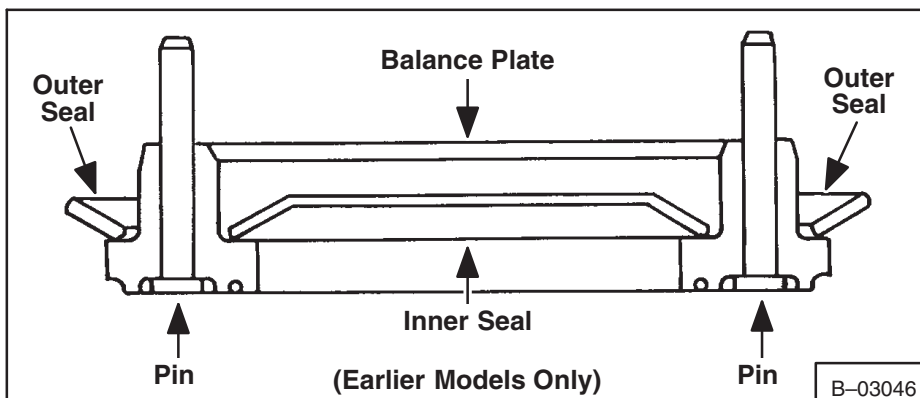

**Fig. 3-74** Installing Springs And Pins
28. Install the spring and pins (Fig. 3-74) in the valve housing.